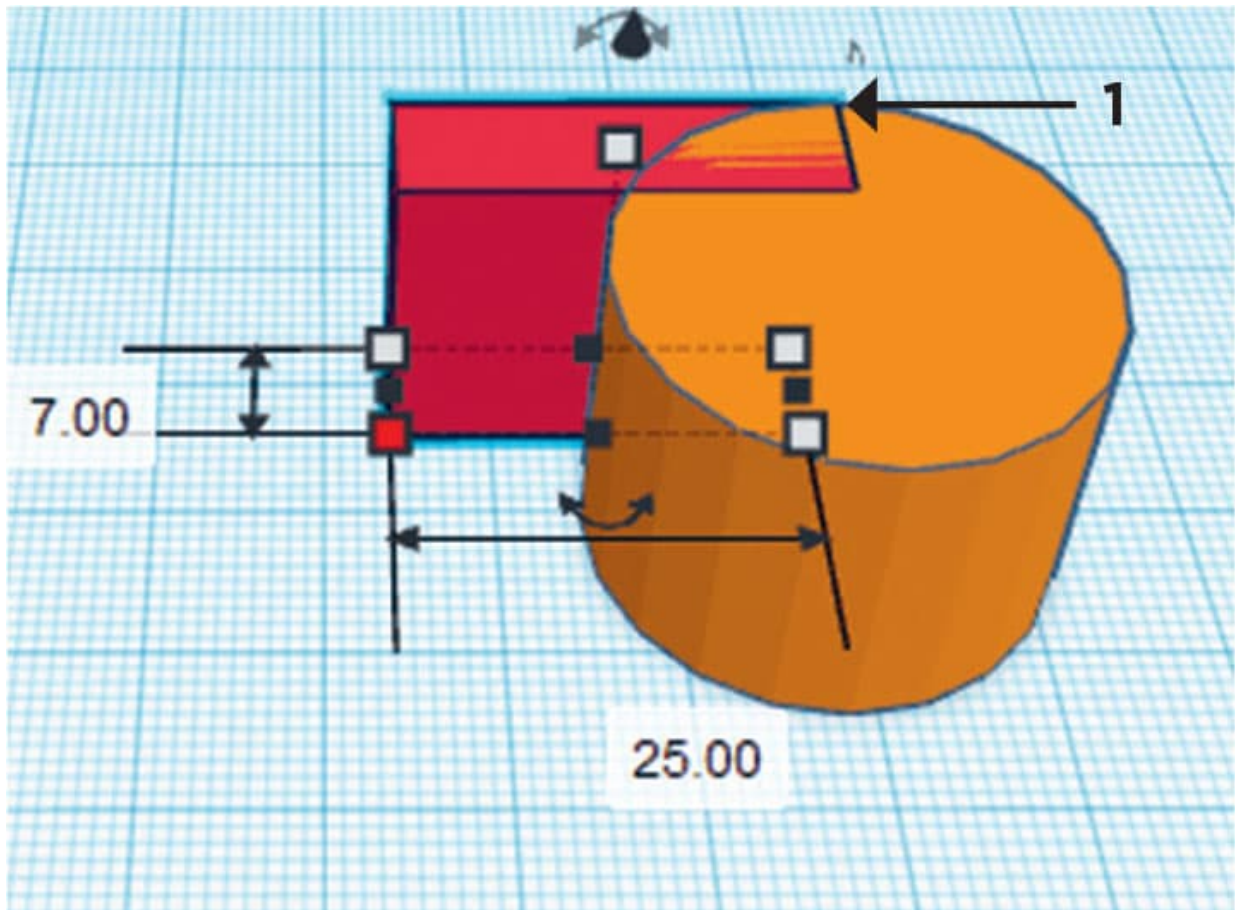

FIG. 1: Connect the cylinder and box of the whistle body.
1. Use a **Cylinder** tool to create the whistle body 27 mm in diameter and 20 mm tall. Add a **Box** at the top left corner that is the same height as the cylinder, 20 .mm, but 7 mm wide and about 25 mm long. Make sure the box is flush with the cylinder where they meet. Fig. 1. arrow 1 shows the point where they touch. **Group** the cylinder and box together.